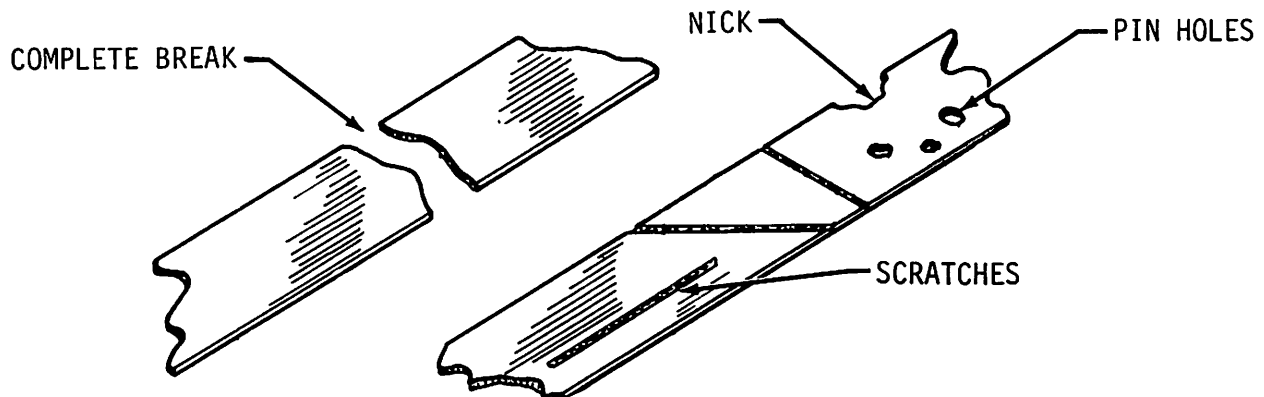

FIGURE 4-5. TYPICAL PRINTED WIRING DAMAGE
4. Repair of Damaged or Defective Trace. A damaged trace may be a complete break or scratches, nicks, or pinholes which reduce the cross-sectional area of the conductor beyond original design specifications. (See Figure 4-5.)